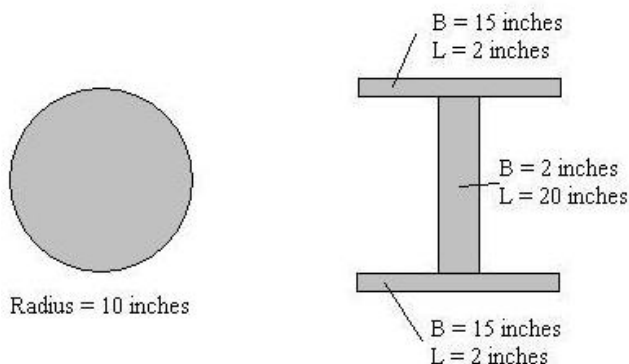

Figure 2: Cross-sectional areas.
2. Calculate the maximum tensile and compressive forces allowed for the following two cross-sectional areas shown in Figure 2. The maximum tensile strength is  $3,750 \text{ lb/in}^2$ . The maximum compressive strength is  $4,850 \text{ lb/in}^2$ . Use the following equations along with those in #2 to complete the problem. Show your work and calculations.